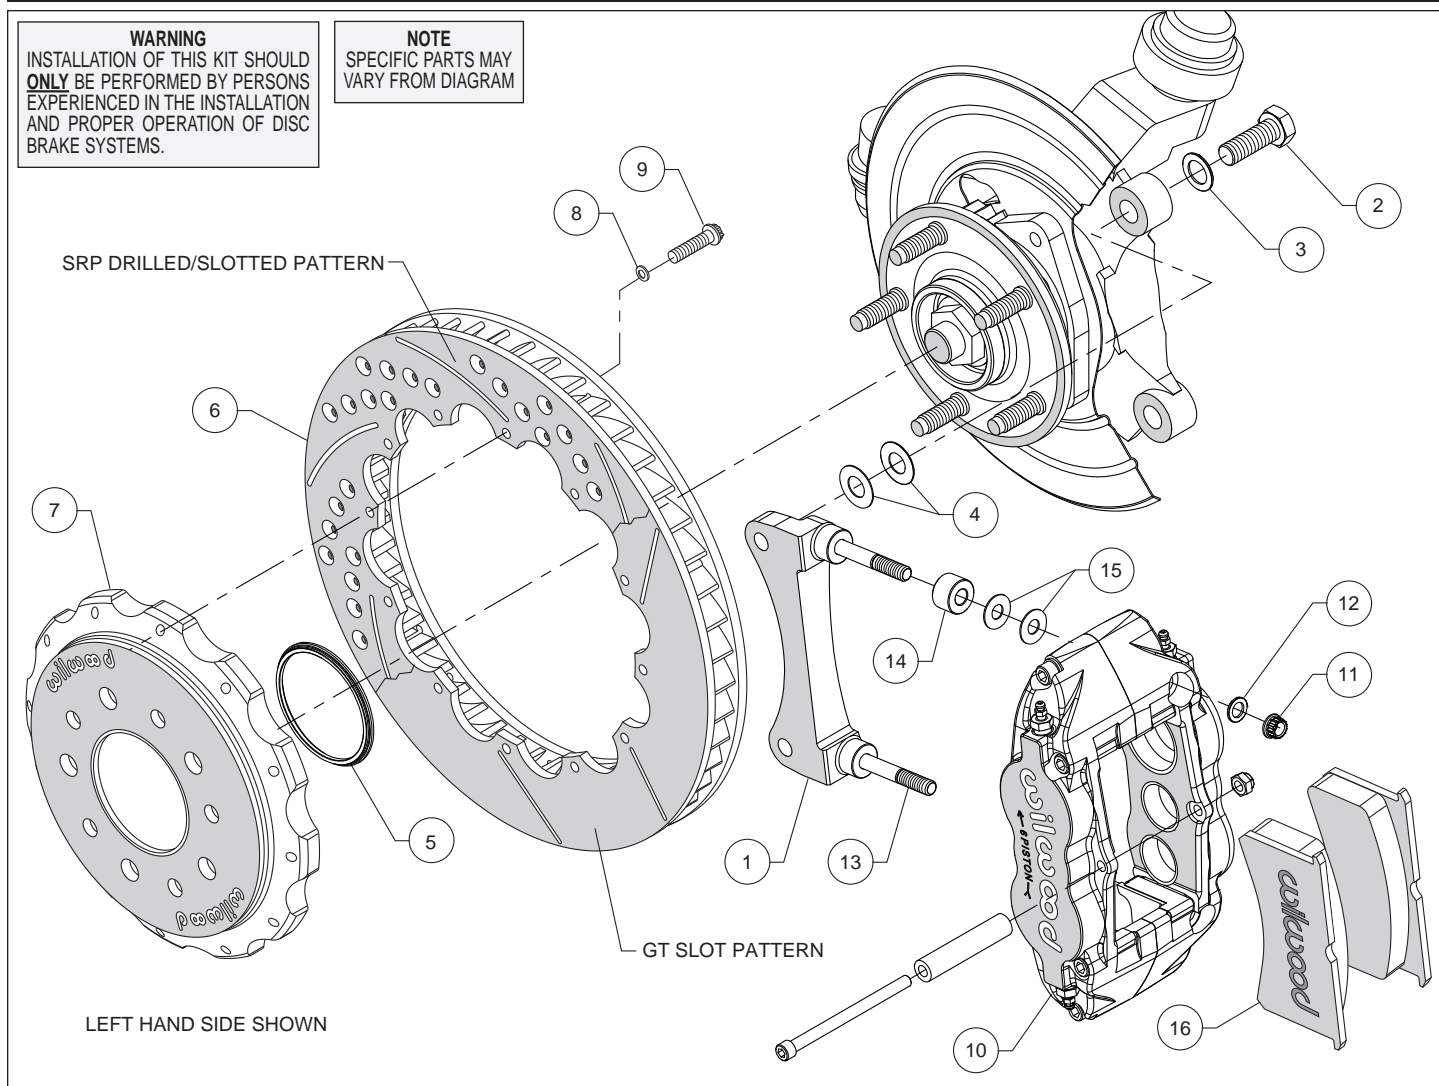
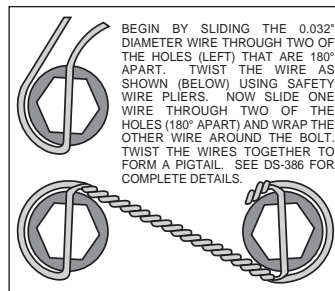

Figure 1. Typical Installation Configuration
Figure 3. Safety Wire Diagram
Assembly Instructions (numbers in parenthesis refer to the parts list and Figure 1 on the preceding pages):
- The caliper mount bracket (1) should initially be installed with clean, dry threads on the mounting bolts. Orient the bracket as shown in Figure 1 and Photo 1 and install using mount bolts (2) and washers (3). Initially place two .029" thick shims (4) on each bolt between the bracket and upright, Figure 1. Temporarily tighten the mounting bolts. **NOTE:** *The bracket must fit squarely against the mount bosses on the upright.* Inspect for interference from casting irregularities, machining ridges, burrs, etc. Later, after the caliper alignment has been checked, the mount bolts will be secured using red *Loctite*® 271.
- Orient the rotor (6) and the hat (7) as shown in Figure 1 and Photo 2. Attach rotor to hat using bolts (9) and washers (8). Using an alternating sequence, apply red *Loctite*® 271 to the threads, and torque to 155 **in-lbs**. For an added measure of security, the bolts may be safety wired using standard 0.032 inch diameter stainless steel safety wire as shown in Figure 3. Please refer to Wilwood's data sheet DS-386 (available at www.wilwood.com/Pdf/DataSheets/ds386.pdf) for complete safety wire installation instructions.
- **NOTE:** *This kit contains distinct right and left hand calipers that must be mounted in a specific direction, as described below.* Lubricate the caliper mounting studs (13) with lightweight oil. Initially place two .035" thick shims (15) and one spacer (14) on each stud as shown in Figure 1 and Photo 7. Mount the caliper (10) onto the bracket (1) using lock nuts (11) and washers (12), Figure 1. Ensure that the caliper is mounted so the largest pistons are at the rotor exit end of the caliper, in relation to the direction of rotor rotation. Temporarily tighten the lock nuts and view the rotor through the top opening of the caliper. The rotor should be centered in the caliper, Photo 8. If not, adjust by adding or subtracting shims (4) between the bracket and the upright. Always use the same amount of shims on each of the two mounting bolts. Once the caliper alignment is correct, remove the bracket mounting bolts one at a time, apply red *Loctite*® 271 to the threads, and torque to 75 ft-lb.